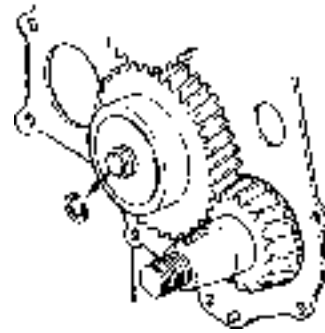

Fig. 59. Dismantling of circlip to cover for the oil pump
10. Remove the circlip for the intermediate gear (Fig. 59). Take care of the sleeve washer, spring and shims.